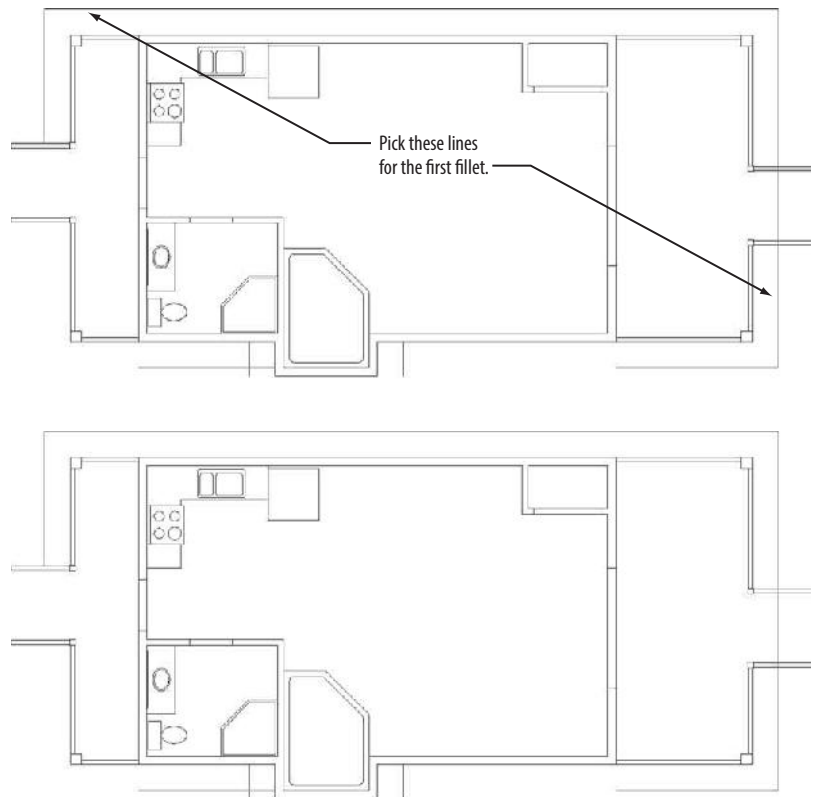

FIGURE 6.42: Picking lines to fillet one of the eaves' corners (top) and the result (bottom)
12. Work around the building in a clockwise manner, being sure to click the half of the line nearest the corner where the two selected lines will meet (see the top of Figure 6.42).
The lines extend to meet each other and form a corner (see the bottom of Figure 6.42). The FILLET command ends.